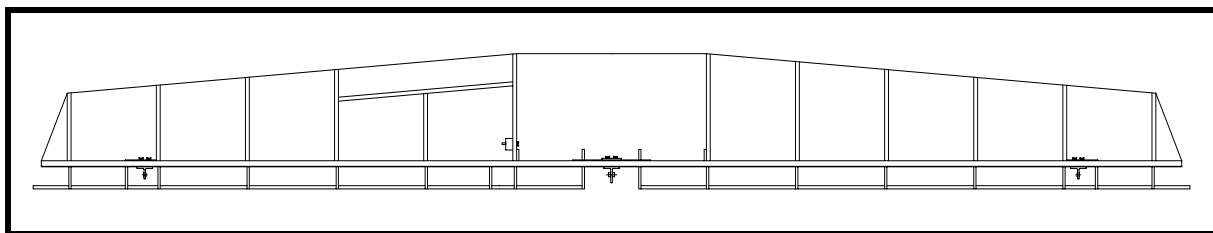

Figure 5
- ❑ Using this string to align the ribs, fit all of the remaining trailing edge ribs in place, but do not glue at this time. See Figure 5.
- ❑ Fit the trim tab closing spar, P/N 406-5, in place. This will require that you sand the aft end of P/N 403-9 rib. See Figure 5.